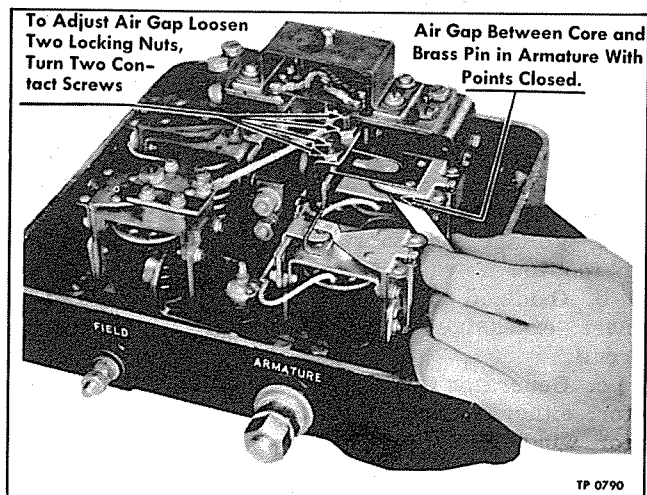

Figure 3—Field Relay Air Gap Check and Adjustment
1. Measure air gap between brass residual pin in armature and magnetic core (fig. 3). This dimension should be as listed under "Specifications" later in this section.
2. If air gap requires adjustment, loosen two lock nuts and turn contact screws until proper adjustment is obtained (fig. 3). Tighten lock nuts when adjustment has been completed.